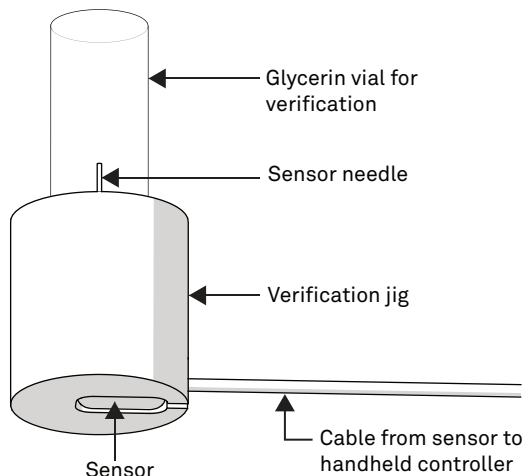

**Figure 22** Verification holder for single-needle sensors
1. Using the white Delrin verification jig (Figure 22), insert the glycerin vial through the opening in the bottom.